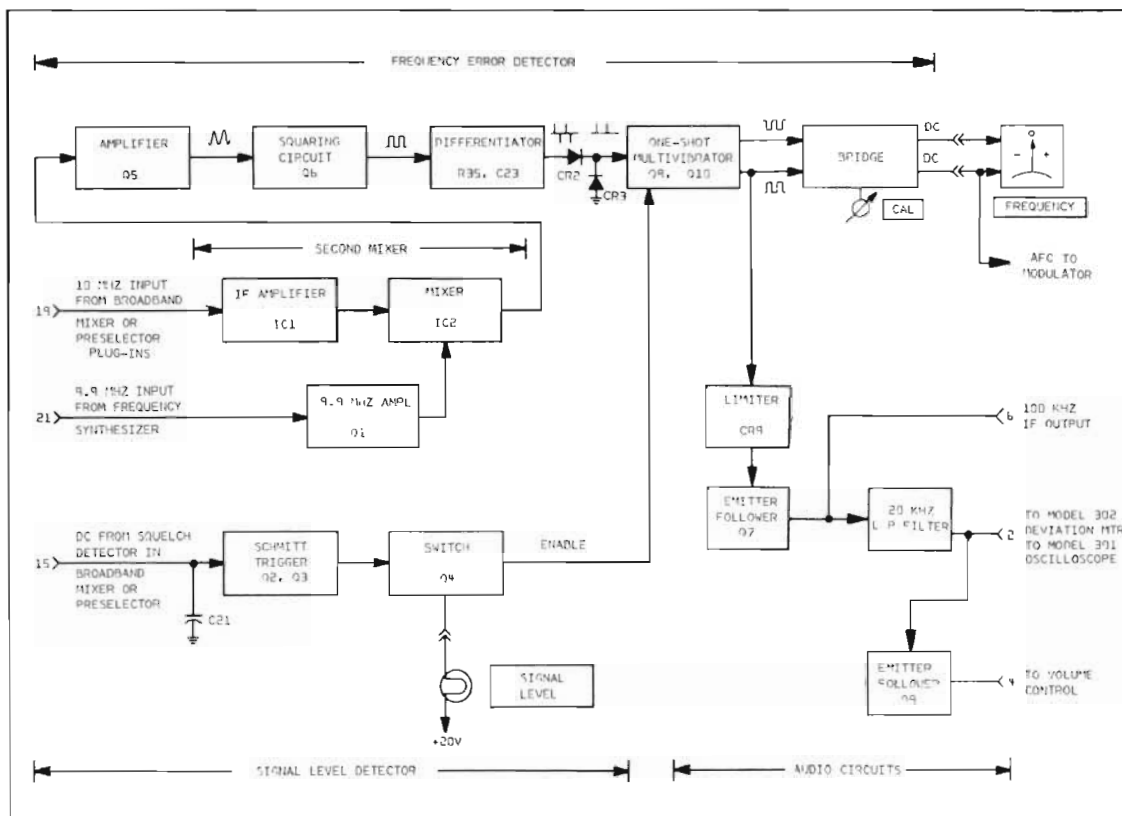

Figure 4-3. Second IF and Discriminator Circuits, Simplified Block Diagram
4.99 Figure 4-3 is a block diagram of the Second IF and Discriminator circuits and Figure 6-4 is the schematic.